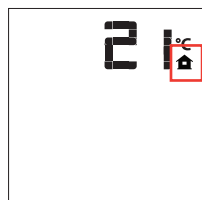

Figure 11 - Remote Control Displaying Room Temperature
1. Press the ON/OFF button on the transmitter. The transmitter LCD display will only show the room temperature and icon (see Figure 11). The receiver disconnects and will command the DFC board to turn off the burner.